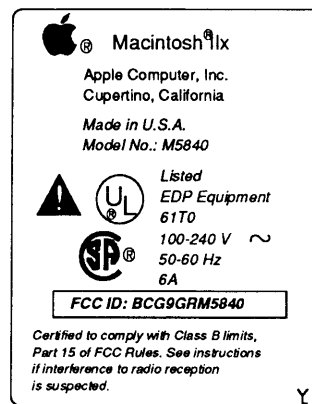

Figure 5-5
4. Install the identification decal on the bottom cover as shown in **Figure 5-5**.